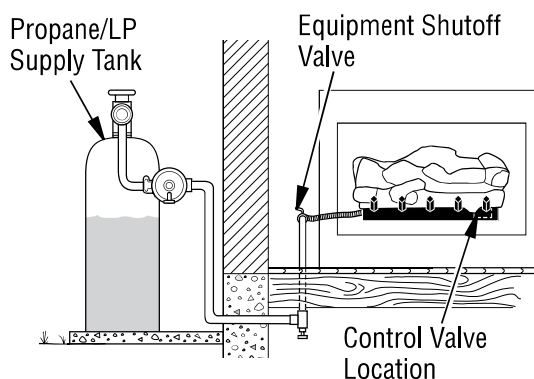
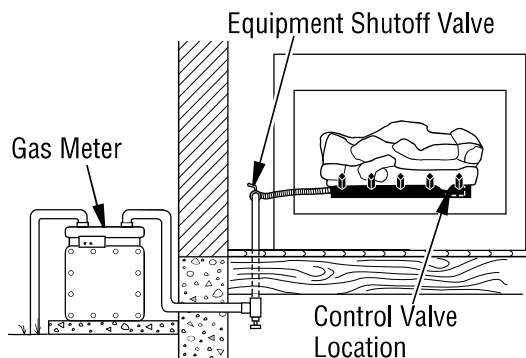

Figure 16 - Checking Gas Joints (Propane/LP Only)
Figure 17 - Checking Gas Joints (Natural Gas Only)
3. Check all joints from gas meter to equipment shutoff valve for natural gas or propane/LP supply to equipment shutoff valve for propane/LP (see **Figure 16** or **Figure 17, Page 16**). Apply noncorrosive leak detection fluid to all joints. Bubbles forming show a leak.
4. Check all joints from gas meter to equipment shutoff valve for natural gas or propane/LP supply to equipment shutoff valve for propane/LP (see **Figure 16, Page 15** or **Figure 17, Page 16**). Apply noncorrosive leak detection fluid to all joints. Bubbles forming show a leak.